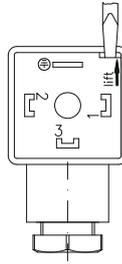

Fig. 8
- ↖ Open the core ⑧ of the cable socket ② with a screwdriver or similar tool (⇒ Fig. 8).